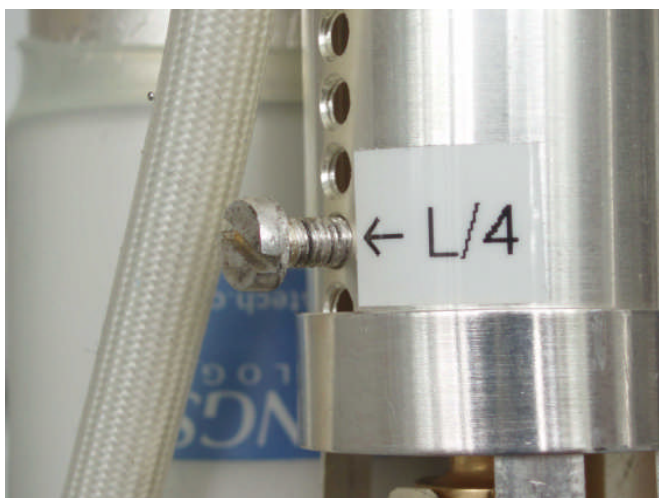
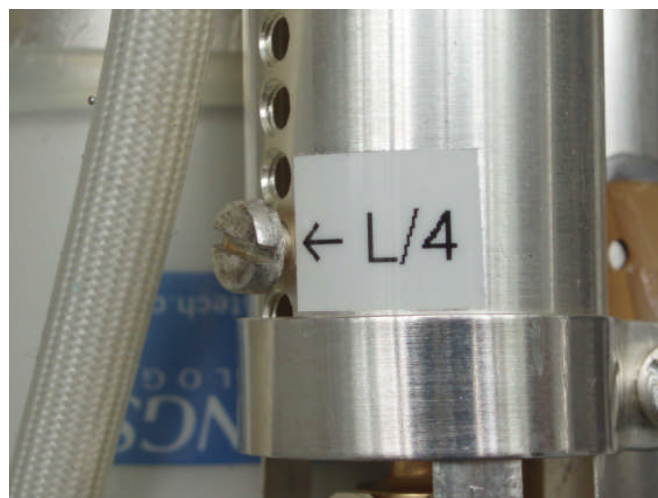

fig.1: $\lambda/2$ -mode → screw out (loosen)
fig.2: $\lambda/4$ -mode → screw in
2. In case of operating in $\lambda/2$ -mode, e.g. $^{13}\text{C}/^1\text{H}$, or experiments in the upper X-range (**136...217MHz**) it is necessary to open the *short circuit screw* (at the $\lambda/2$ -tube of the ^1H -channel, see fig. 1 , below). In the other case in $\lambda/4$ -mode, e.g. $^{15}\text{N}/^1\text{H}$, or experiments in the lower X-range (**24...147MHz**), use the marker at the $\lambda/2$ -tube and **carefully turn in** this screw until one has contact with the inner conductor of the $\lambda/2$ -line, see fig. 2, below. Do not turn this screw too far in order to avoid bending or damage of the inner conductor